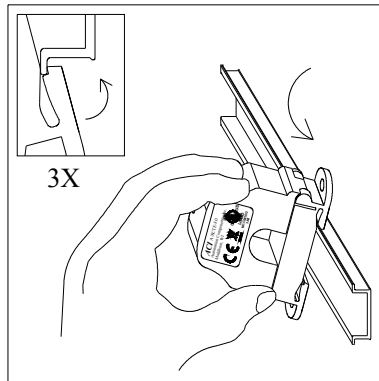

Figure 1: Sensor Placed on Rail
The A/SCTE & A/SCTV Series Analog Current Sensors should be used on **Insulated Conductors Only!** The current sensors may be mounted in any position using the (2) #8 x 3/4" Tek screws and the mounting holes in the base or snapped directly onto the 35mm DIN rail (See Figures 1 & 2 below). Leave a minimum distance of 1" (3 cm) between the current sensor and any other magnetic devices such as contactors and transformers.